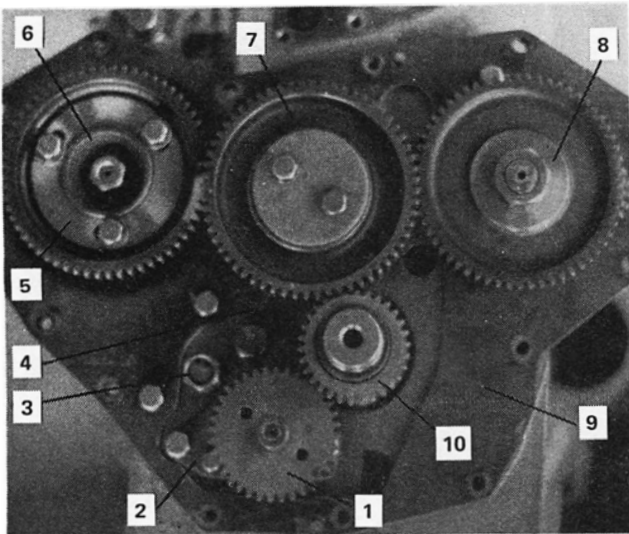

Figure 3
21. Remove the nut and the oil pump gear and key, Figure 3.